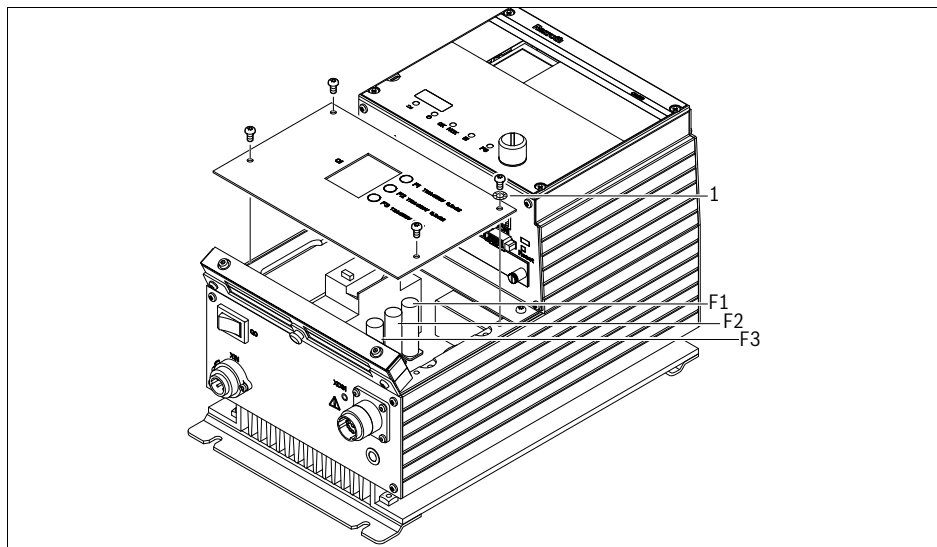

Fig. 28: Fuses
- Exchange the fuses (see Fig.28).